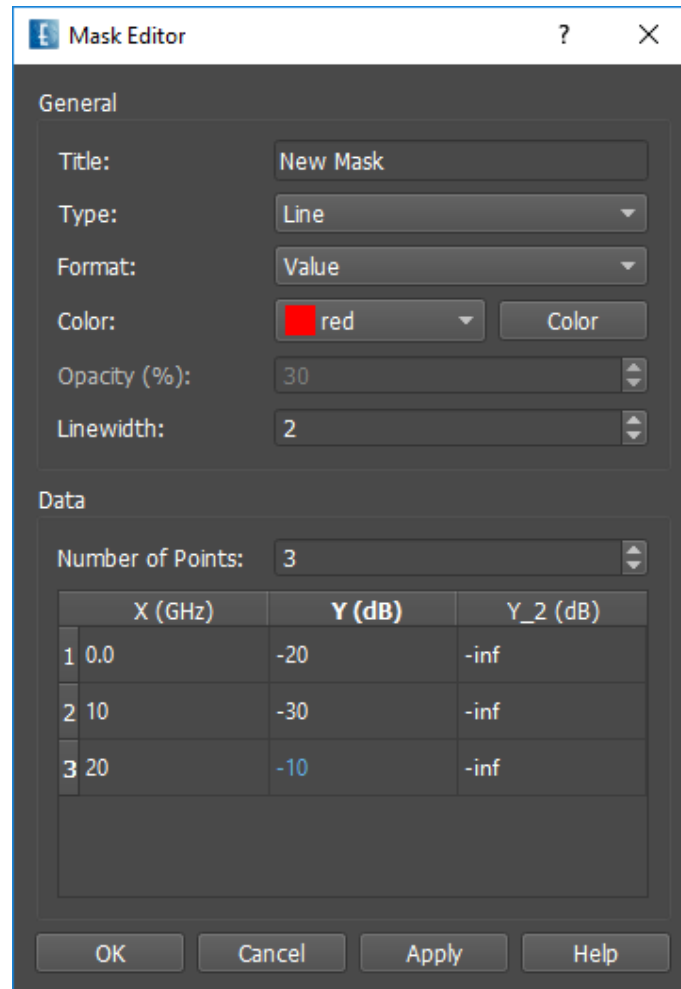

Figure 25.4.: Mask Editor
- **Add Mask** Create a new mask and open the mask editor, see Figure 25.4